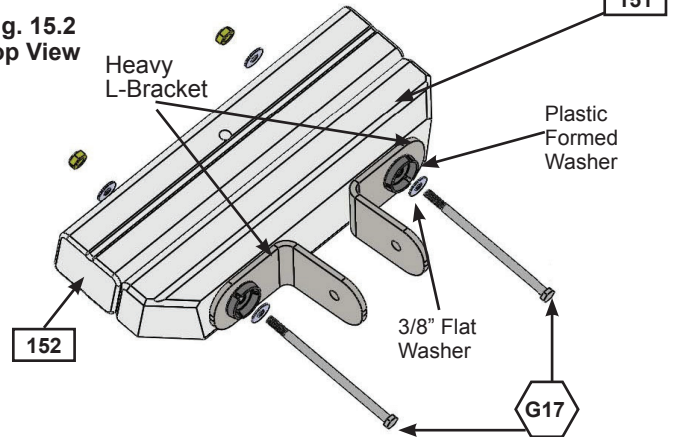

Fig. 15.3
B: Attach 3 (WB7) 5/16 x 3" Wafer Bolts (with flat washer and t-nut) to all three holes in each (153) SW Post as shown in fig. 15.3. **IMPORTANT! MAKE SURE ALL 6 BOLTS ARE ATTACHED TO MINIMIZE CHECKING OF WOOD.**